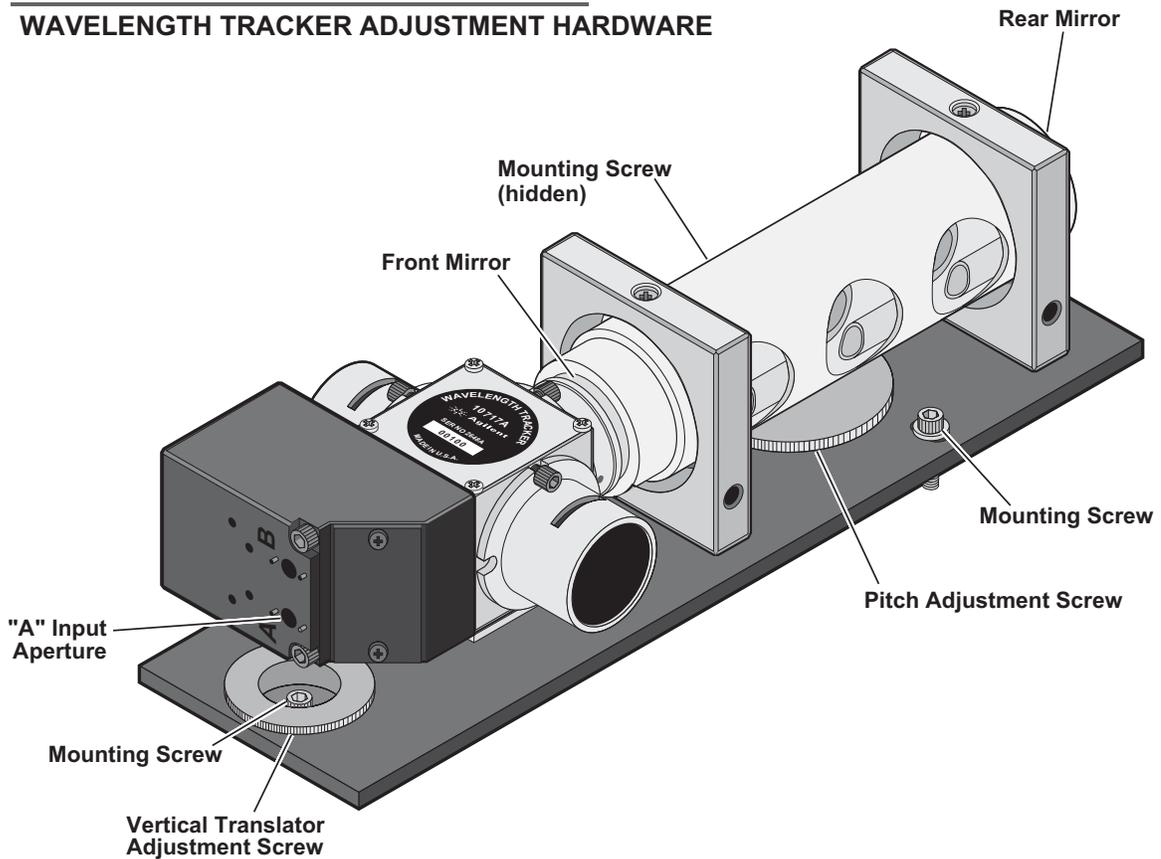

Figure 167 Agilent 10717A Wavelength Tracker adjustment hardware
- 4 Tighten the front mounting screw (Figure 167) until slight resistance is sensed.
- 6 Rotate the vertical translator adjustment screw (see Figure 167) until the input beam is vertically centered about the input aperture. At the same time, move the tracker horizontally to center the laser beam horizontally.
- 7 Tighten the front mounting screw (see Figure 167) finger-tight when the laser beam is centered on the input aperture.
- 11 Rotate the pitch adjustment screw (see Figure 167) until the laser beam autoreflected back to the laser head is centered vertically about the output beam. Yaw the baseplate back and forth until the autoreflected beam is concentric with the laser head aperture.
- 12 Tighten all three mounting screws alternately (see Figure 167) until finger-tight. Now tighten the screws by applying a torque of 0.9 Newton-meter (8 inch-pounds). Maintain proper autoreflection as the screws are tightened. Correct for any change by readjusting the wavelength tracker in pitch and yaw until the laser beam is autoreflected back into the laser head. This insures proper angular alignment.
- 19 Block one of the two beams incident on the **front** etalon mirror (see Figure 167) with a piece of paper. Be sure to block only one beam at this time. Observe the voltmeter reading. If the reading is greater than +0.1 Vdc, turn the gain adjustment screw counterclockwise until the voltage reads +0.1 Vdc.
- 20 Block one of the two beams incident on the **rear** etalon mirror (see Figure 167) with a piece of paper. Again, be sure to block only one beam at this time. If the measured voltage is greater than +0.1 Vdc, turn the gain adjustment screw clockwise until the reads +0.1 Vdc.
After the wavelength tracker and receiver have been properly aligned in the measurement system, you should lock the vertical translator adjustment screw (see Figure 167) in place. This will prevent possible cosine error in the wavelength tracker due to thread clearance between the adjustment screw and the baseplate. A suitable low strength, wicking adhesive (Loctite #425) is recommended. In vibration-free environments, this precaution may not be necessary.